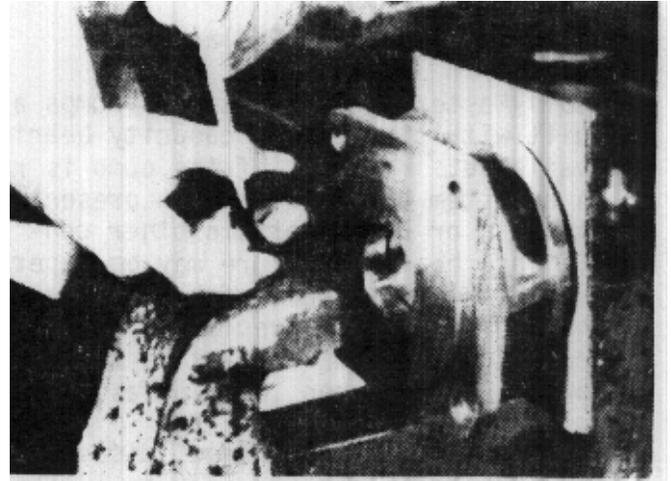

FIGURE 70
4. The rubber lip of the seal should point toward the rear of the pump so that the garter spring is inside. (Fig. 70)